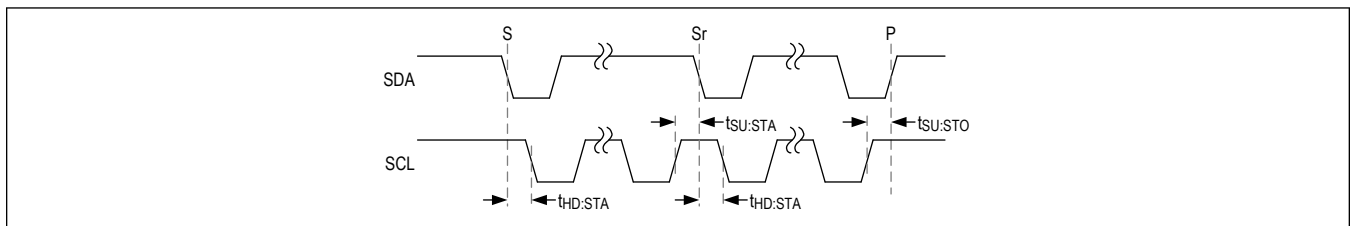

Figure 3. START, STOP, and REPEATED START Conditions
A controller device initiates communication by issuing a START condition. A START condition is a high-to-low transition on SDA with SCL high. A STOP condition is a low-to-high transition on SDA while SCL is high (Figure 3). A START (S) condition from the controller signals the beginning of a transmission to the MAX25460. The controller terminates transmission, and frees the bus, by issuing a STOP (P) condition. The bus remains active if a REPEATED START (Sr) condition is generated instead of a STOP condition.